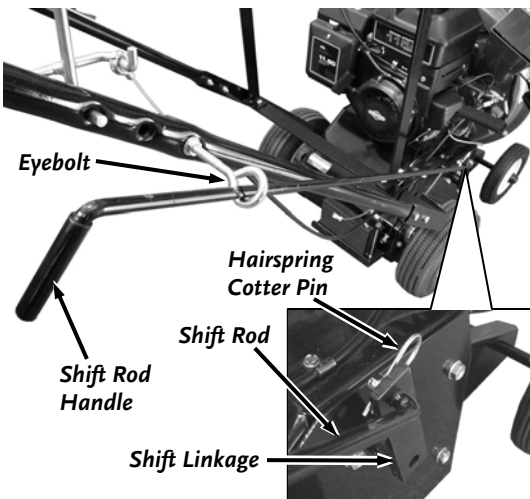

Figure 9
6. Slide the shift rod through the eyebolt so that the handle with the rubber grip is at the top (**Figure 9**).